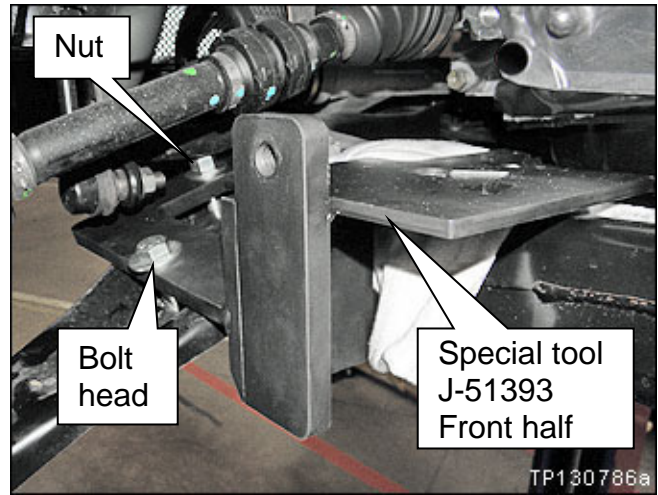

Figure 8
15. Install the Front Half of special tool J-51393 (see Figures 8, 9, and 10).